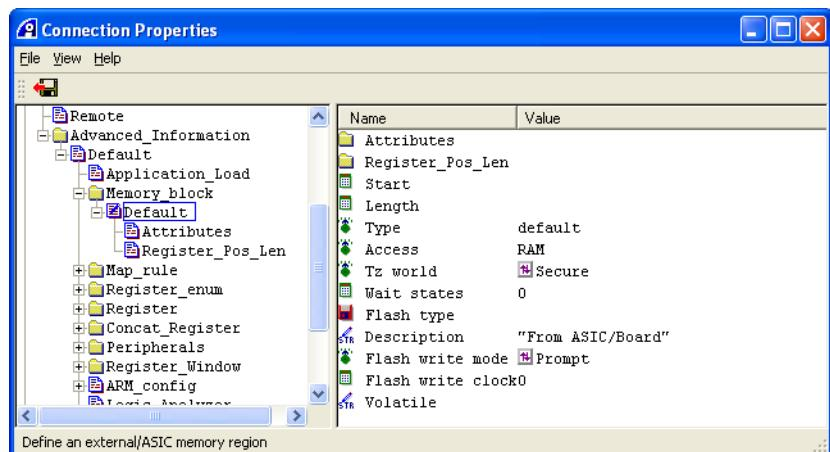

Figure 7-17 Defining shared memory regions
5. Double-click on the Default entry in the left pane to expand it. Figure 7-17 shows an example:
A simple example is a SMP environment, where two processors share all memory and all peripherals. To do this, change the settings for each processor (shown in the example in Figure 7-17 on page 7-29):